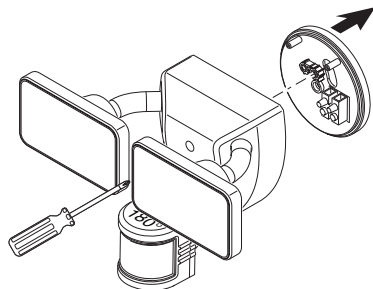

Figure 1
1. From the front of the light fixture, unscrew the large mounting bolt connecting the light fixture to the mounting plate and remove the mounting plate (see Figure 1). The mounting bolt is designed to stay in the light fixture.